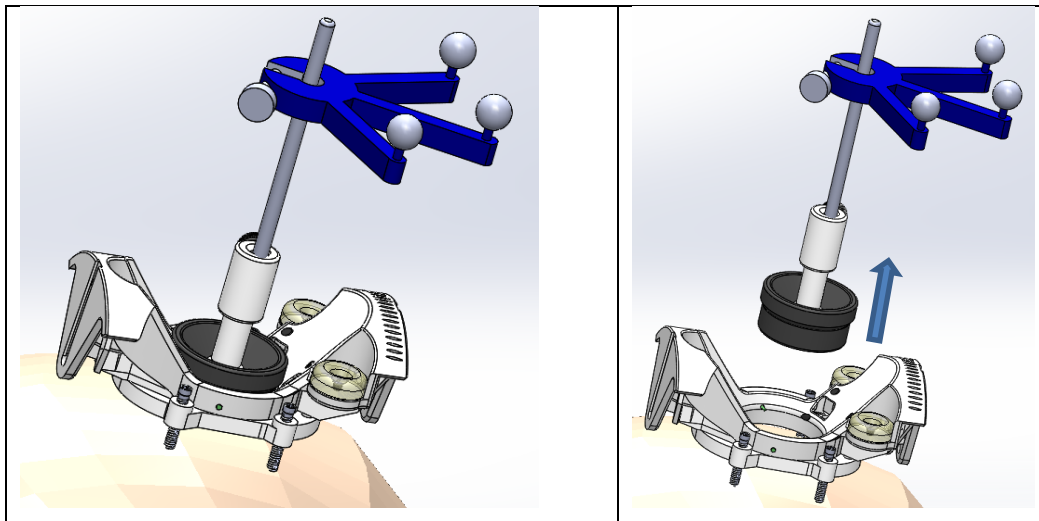

Figure 10: Entry Point Locator is removed by pulling it out of the Base
2. After confirming that the desired alignment to trajectory can be obtained, remove the Entry Point Locator from the Base by pulling it out. **See Figure 10.**